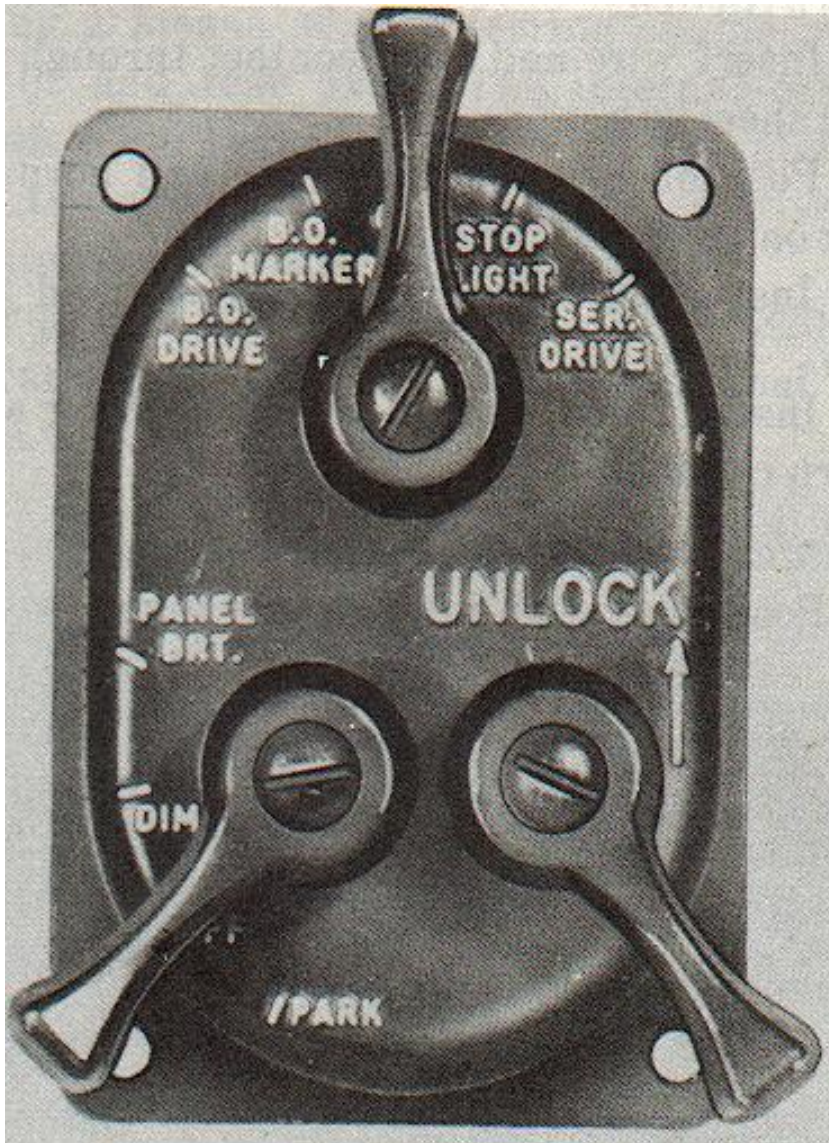

Figure 2-57. Main Light Switch.
1. Main Light Switch. (Fig 2-57)